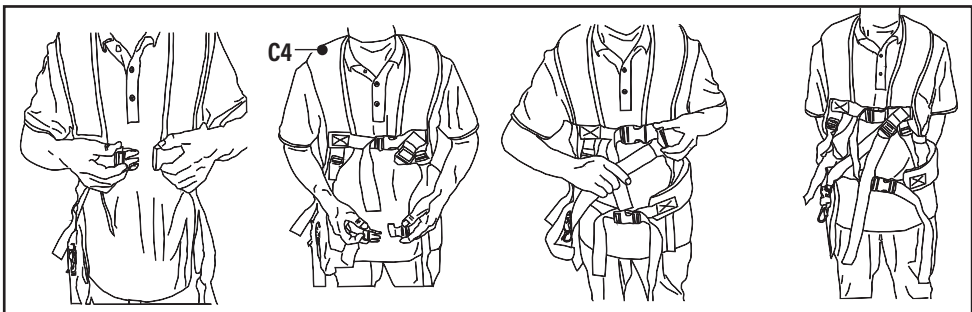

Fig. 9
3. Adjust the length of the harness (C4) so that the weight of the machine is balanced and the cutting attachment is approximately 10-15 cm above the ground (Fig. 9).